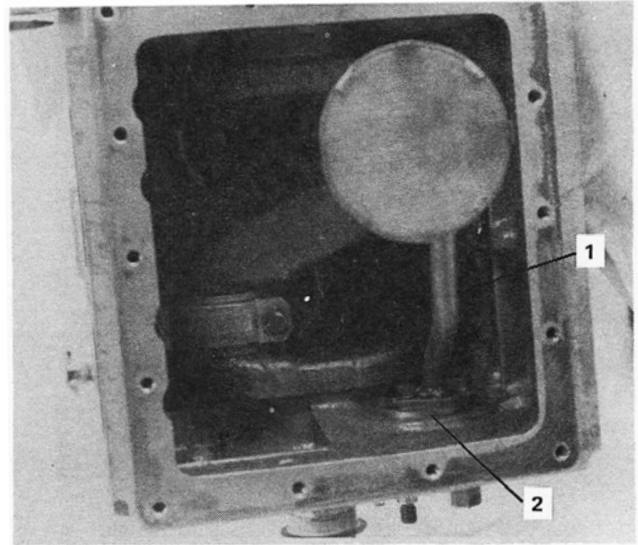

Figure 4
31. Remove the capscrews and oil suction filter, Figure 4.